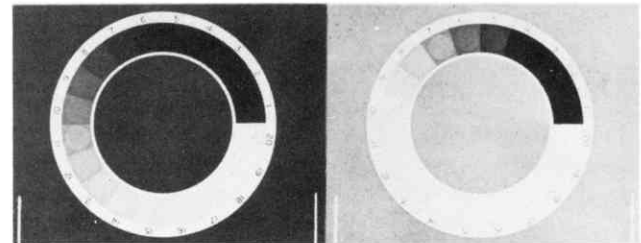

Fig. 6
d. Replace step wedge in enlarger, expose paper, develop, fix, and dry in usual manner. Then, under room illumination of not less than 100 Meter-Candles, examine the print you have just made. At the dense end of the print, it will be seen that the steps merge to form a solid block of black in which the individual steps are not readily apparent. (See Figure 6, page 9.) Select the first black step following the gray. Record the number of this step, and, by referring to your calibration of the wedge given on page 7, obtain the density value for this step, assume to be .7. In many cases, selection of the first black step can be made from a wet print, if the print is first wiped dry to remove the gloss produced by the water.
and subtract the smaller from the larger. This is the contrast range of the paper. The contrast range of each paper should be determined and recorded on the back of the Exposure Guide and on the paper box or envelope. Figure 6 shows a facsimile of two wedge prints, one on a soft paper, the other on a hard paper.